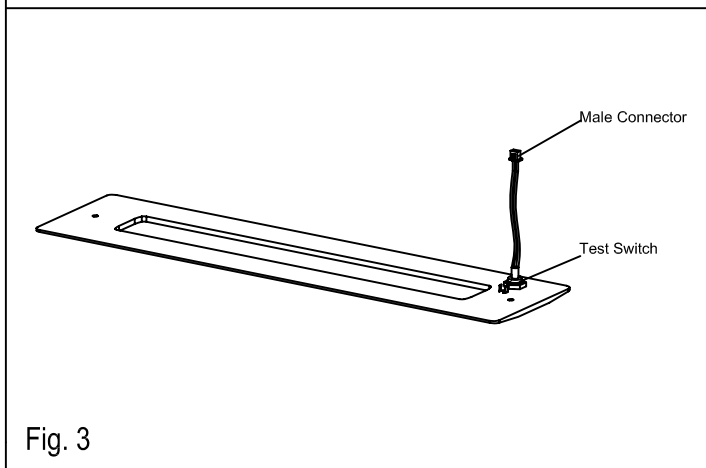

Fig. 3
4. Install test switch (with male connector on trim plate. (See Fig. 3 on Page 2)